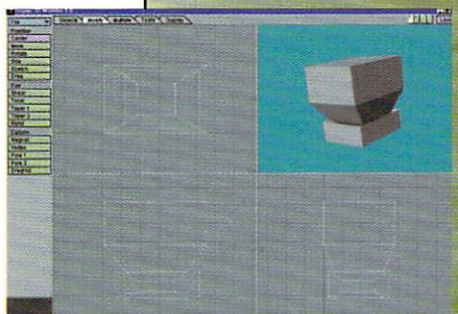

Figure 3
3. Select the four polys around the bottom section of the object, but not the bottom face. Smooth Shift them with the Offset set to 0. Shrink the four polygons, then Smooth Shift them again. Enlarge them to the size shown in Figure 3.
Now we will have a good example of the difference between Bevel and Smooth Shift. Select the four polygons located around the bottom section of our object. Be sure you do not include the bottom face of the object. If you were to Bevel these four polygons, you would get four new polys that went in opposite directions if you were to resize them. This is solved by Smooth Shifting them. Hit Shift+f and set the Offset to 0, then hit enter. Now you can resize the whole rectangular section. Resize it so that it is again about 3/4 its original size. Now Smooth Shift the polys again, and make them large like in Figure 3.